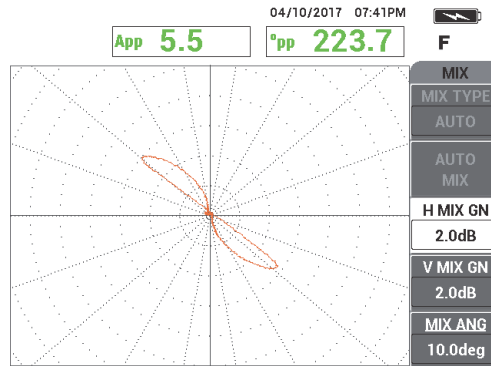

Figure 5-173 The thru-wall hole signal after AUTO MIX gain adjustment
9. Adjust **H MIX GN** (horizontal MIX gain, C key) and **V MIX GN** (vertical MIX gain, D key) until the signal extends across approximately 6 major divisions on the grid (see Figure 5-173 on page 250).